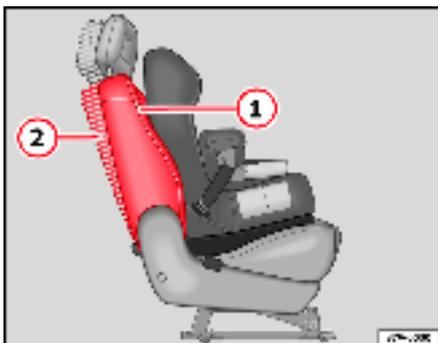

Fig. 34 Backrest adjustment when using ISOFIX child seats
When a child seat is mounted in seats equipped with the "ISOFIX" system, the backrest should be fitted in one of two positions ⇒ fig. 34 ① or ②.